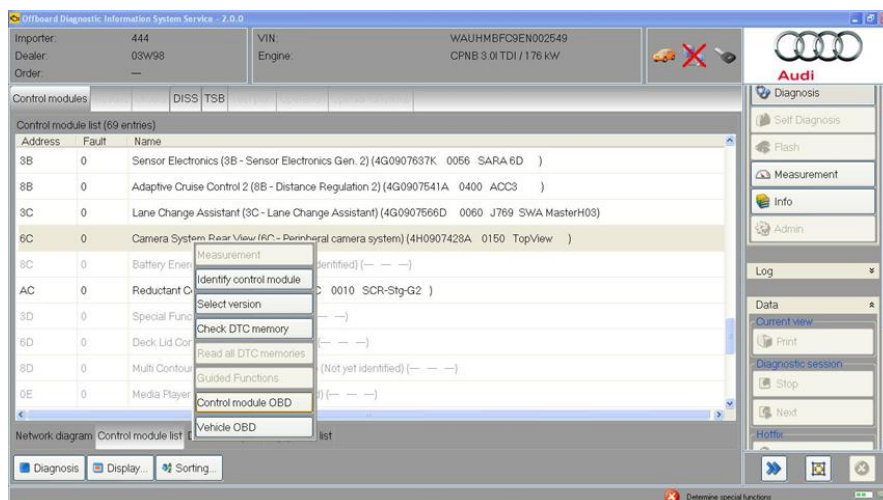

Figure 2. Selecting Control module OBD.
- Right-click on the 6C module, then select *Control module OBD* (Figure 2).